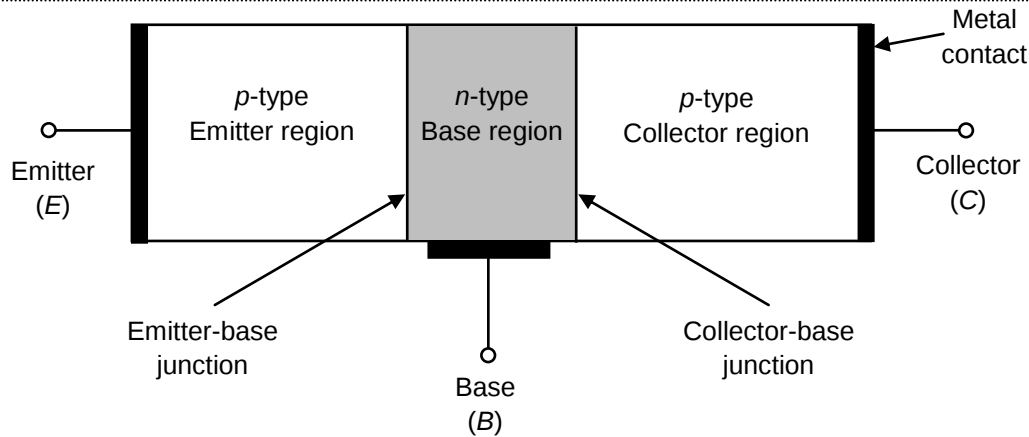

Fig. 3.17: Structure of a $p-n-p$ transistor.
1. a) Fig. 3.17 shows the labelled diagram of the structure of the $p-n-p$ transistor.